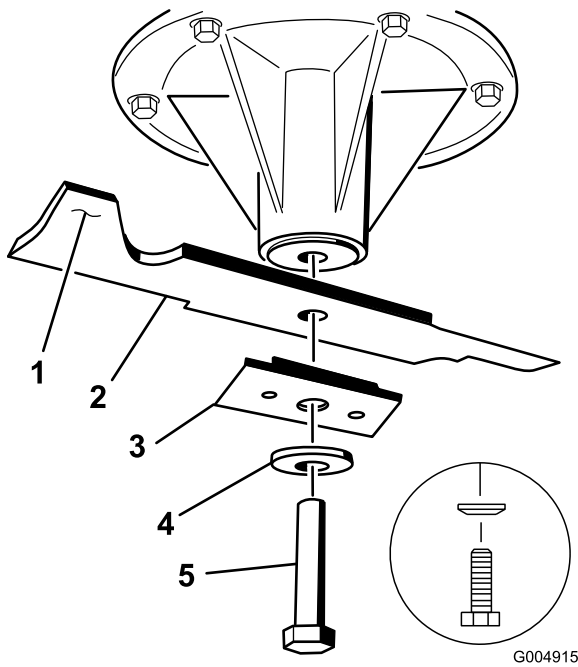

Figure 61
3. For 36 and 52 inch mower decks, remove the blade bolt, curved washer, blade stiffener, and blade from the spindle shaft (Figure 61).
3. For 36 inch and 52 inch mower decks, install the blade, stiffener, curved washer, and blade bolt (Figure 61).